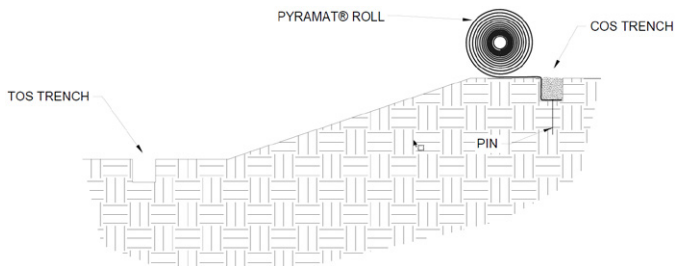

Figure 5: Crest of Slope (COS) trench replacement
- Backfill and compact the COS trench in the location of the first panel only (Figure 5).